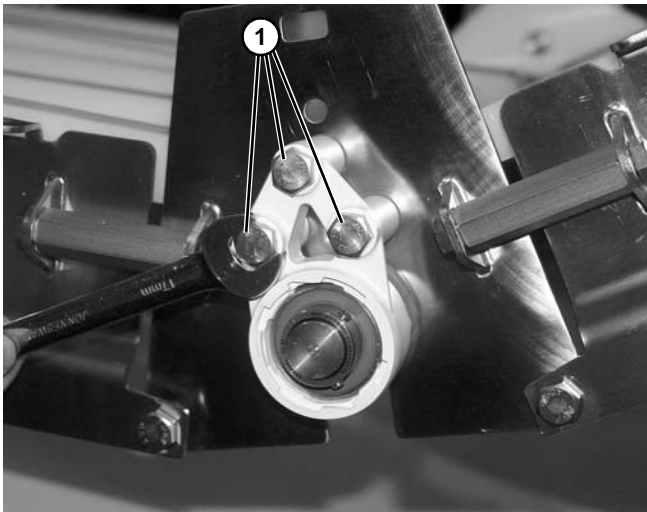

Figure 187
4. Remove three screws (**Figure 187, item 1**) securing bearing housing onto conveyor frame.
5. Remove bearing housing (**Figure 187, item 1**) and spindle shaft (**Figure 187, item 2**) from lower knuckle.